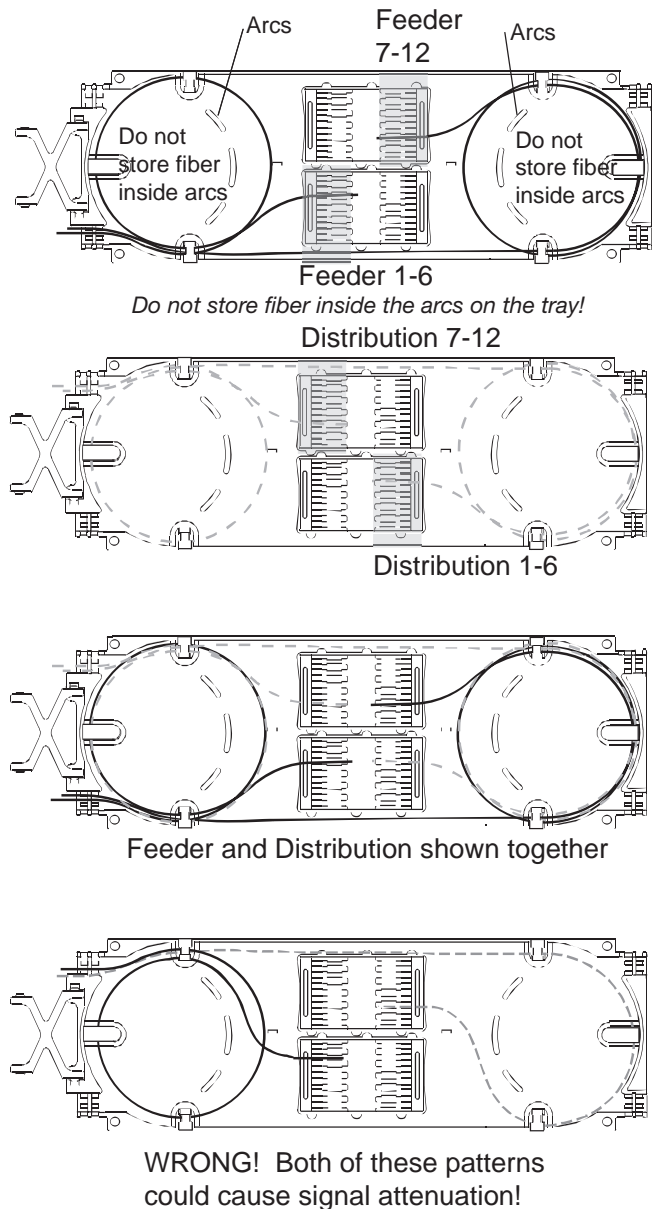

Figure 15
- Splice and store the designated fibers into the tray first. See Figure 15 and Figure 17 for tray routing recommendations.